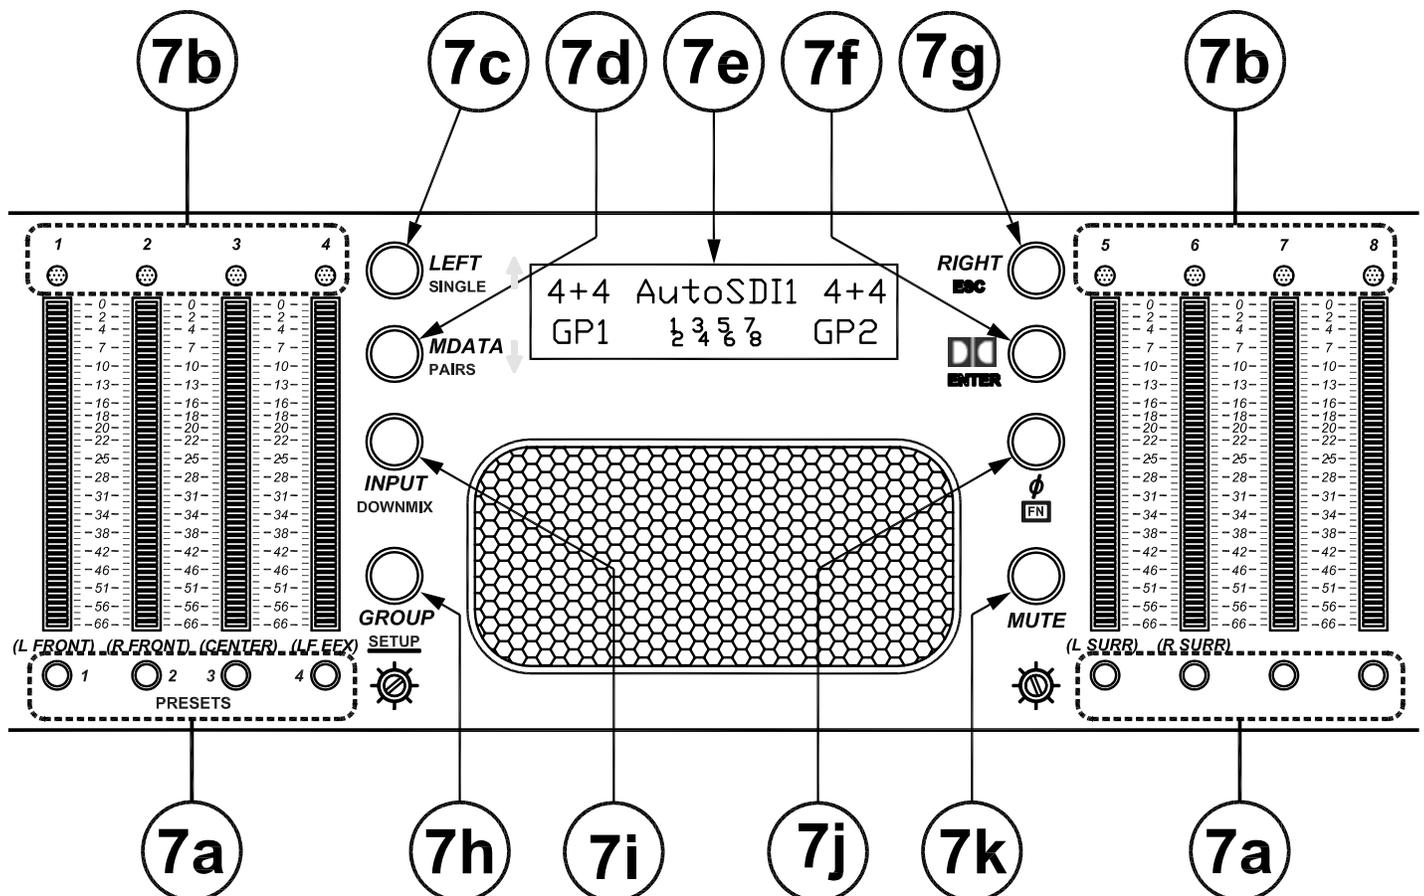

Figure-2d: Front Panel User Interface Reference
There are two sections that may be referred to when learning how to operate the **AMP2-E8 Series** user interface controls; the **User Interface Features** section starting on page 18, which describes the units functions by *feature* and the **User Interface Function Guide** section starting on page 23, which describes the operation of the unit by *function* and also describes operation in greater detail. Navigation, selection, and adjustment are performed by pressing the user interface buttons on the front panel of the unit (see **Figure-2d**, page 17). The **LCD Display** provides the visual feedback and status indication for these operations.
Please refer to **Figure-2d** on page 17 to familiarize yourself with the front panel user interface controls of the AMP2-E8 Series units. The following sections describe these features and are referenced, by number/letter, to **Figure-2d**. For multi-function controls, a color-coded dot identifies the mode in which a particular function operates; WHITE dot (○) = **Normal Operational Mode**, BLUE dot (●) = **FUNCTION (FN) Modes**, YELLOW dot (●) = **Setup Mode**. The user should refer to the **User Interface Function Guide** starting on page 23 where operation is described in greater detail and contents are referenced by *function* rather than *feature*.